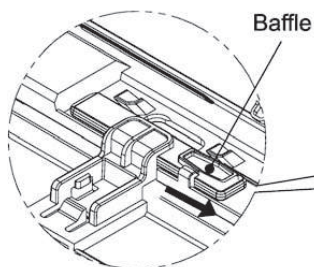
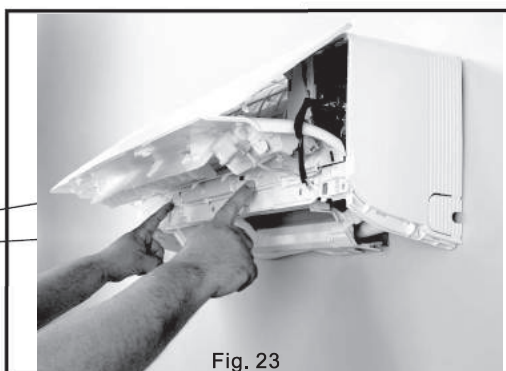
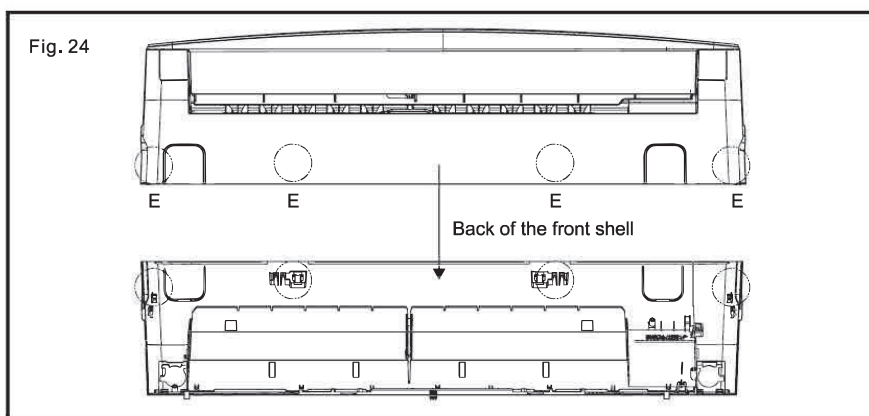

Fig. 22
Fig. 23
Fig. 24
- 10) Pull the baffles as shown in Fig. 22 . Close the front shell as shown in Fig. 23 . Then press the E position to fasten the front shell as shown in Fig. 24 .